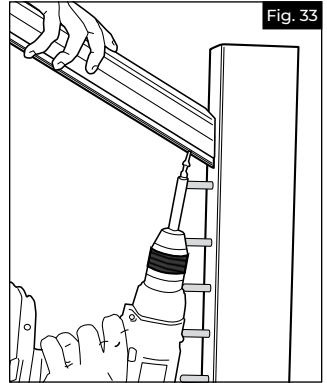
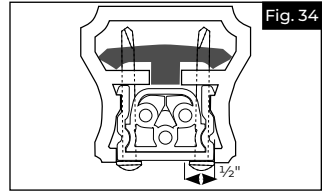

Fig. 33
Fig. 34
- Using the painted screws (component N) install two of the screws upward from underneath each end through the pre-drilled location (Fig. 33). This will secure the bracket, beam, and top rail together (Fig. 34).